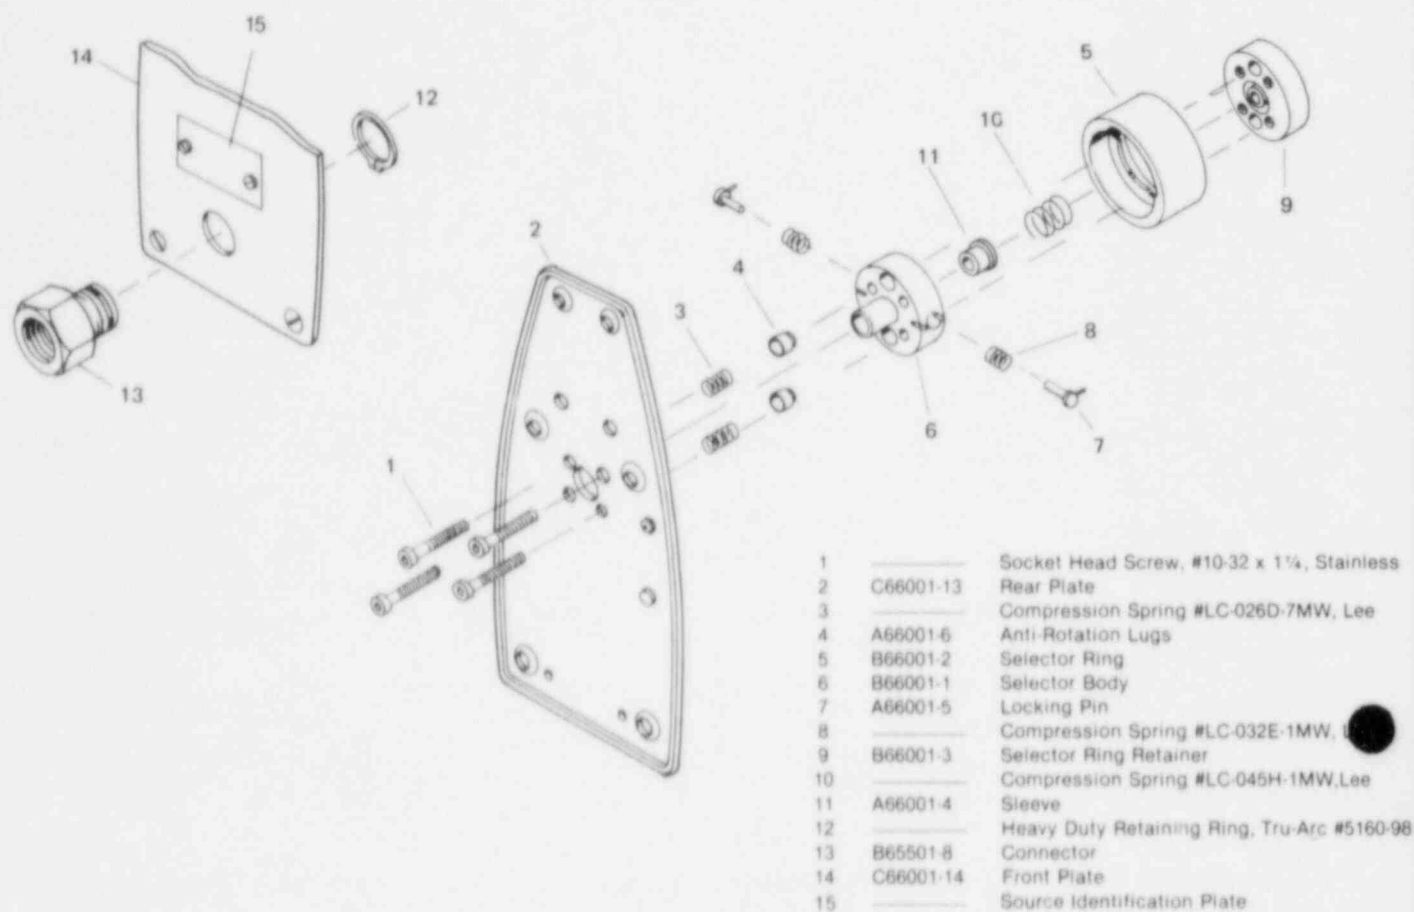
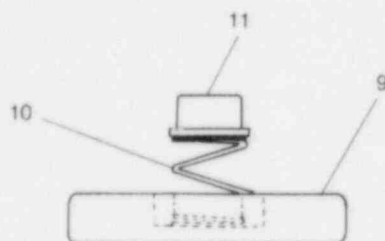
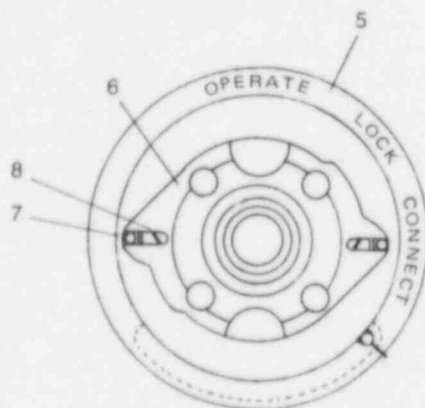
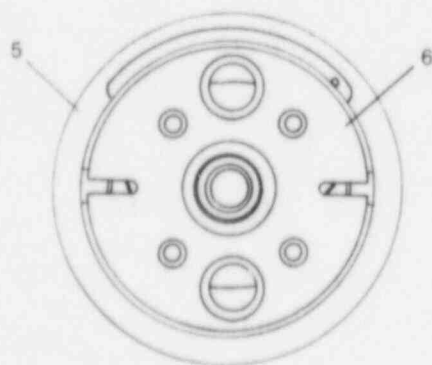

Figure 7.5 Rear End Plate and Control Unit Connector—Exploded View
Figure 7.7
Figure 7.8
Figure 7.9
4. Disassemble the control unit connector assembly, referring to Figure 7.5 for component identification and for order of removal. There are several spring loaded parts in the connector assembly, so care should be taken that these parts are not lost.
6. Remove the front end plate from the exposure device, and remove the guide tube connector and retaining ring with Tru Arc pliers, referring to Figure 7.5. The handle may be left on the front plate.
8. Inspect all parts for damage or excessive wear, and replace if necessary. Use Figures 7.5 and 7.6 for component identification numbers.
11. Reassemble the lock by placing the return springs and spring guides into the lock (5), depressing the internal plunger, inserting the lock (5) into the lock retainer (3), and securing the lock with the set screw (4).
13. To reassemble the control unit connector assembly, refer to Figures 7.7 through 7.9.
14. Refer to Figure 7.7 and place the compression spring (10) on the hub of the selector ring retainer. The spring should be firmly seated over the hub. Then place the sleeve (11) on top of the compression spring (10).
15. Place the selector body (6) on a flat surface so that it is resting on its  $\frac{5}{8}$ " hub.
16. Insert the two short compression springs (8) and locking pins (7) into the holes on the edge of the selector body.
17. Place the selector ring (5) over the selector body (6) while restraining the locking pins (7). Ensure that the lettering (OPERATE-LOCK-CONNECT) on the selector ring is facing up and that the stop pin on the selector body is in the cam slot of the selector ring. This is shown in Figure 7.8.
18. Hold the selector ring (5) and selector body (6) together and place them over the assembly shown in Figure 7.7. The resulting assembly is shown in Figure 7.9. Align the resulting assembly such that the two large holes in the selector ring retainer (9) line up with the two large holes in the selector body (6). The internal locking cam will partially block these holes.
19. Insert the anti-rotation lugs (4) and long compression springs (3) into the two large holes in the selector body. Secure the resulting assembly onto the rear plate with four socket head screws. The word OPERATE should be facing outward, and should be in the 12 o'clock position.